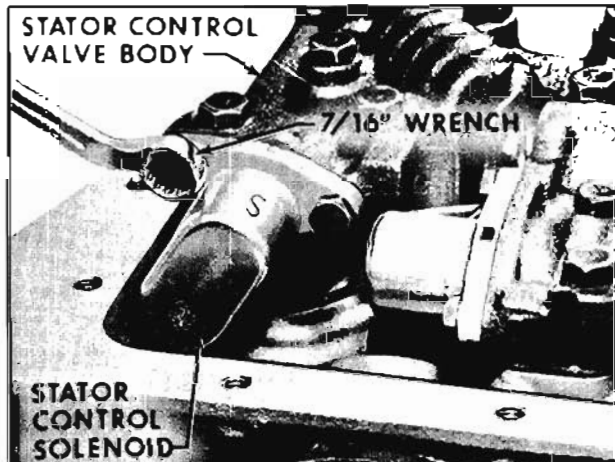

Fig. 6-464 Installing Stator Control Solenoid
8. Install stator control solenoid and gasket to stator control valve body. Torque bolts 8 to 12 ft. lbs. (Fig. 6-464)